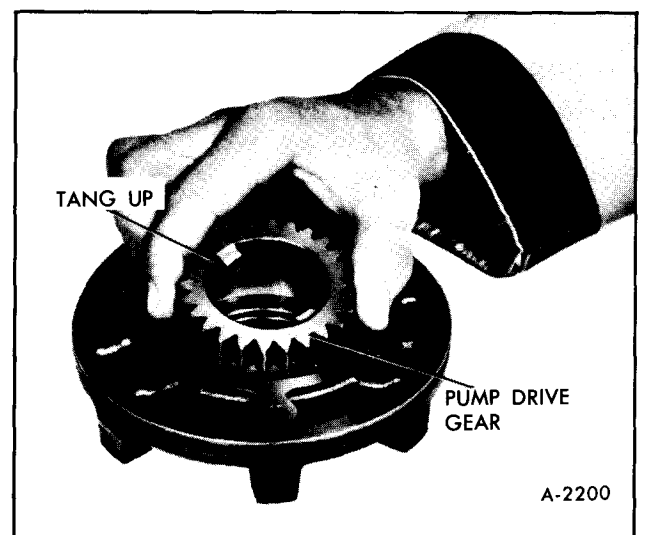

Figure 91—Installing Pump Drive Gear
4. Install drive gear into pump body with drive tangs up, Figure 91.